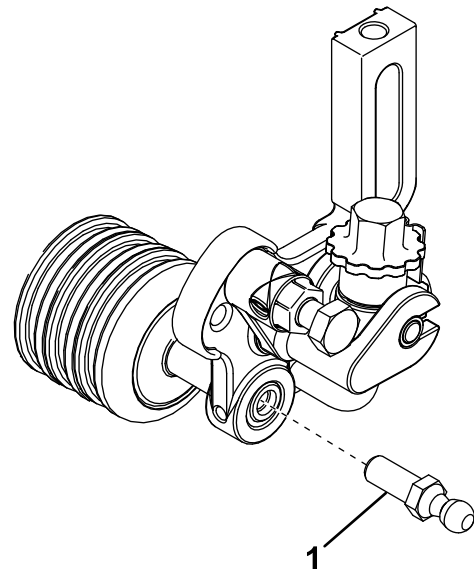

Figure 6
10. Thread a ball stud onto each end of the groomer front rollers (Figure 6).